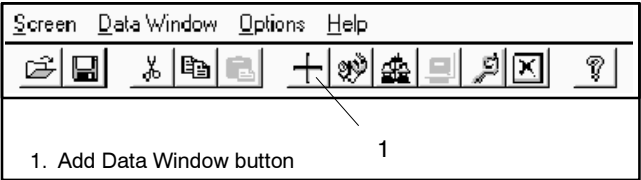

Figure 2-14 Menus and Toolbar
2. Select Data Window→Add Window, or left-click on the  button in the toolbar. See Figure 2-14.